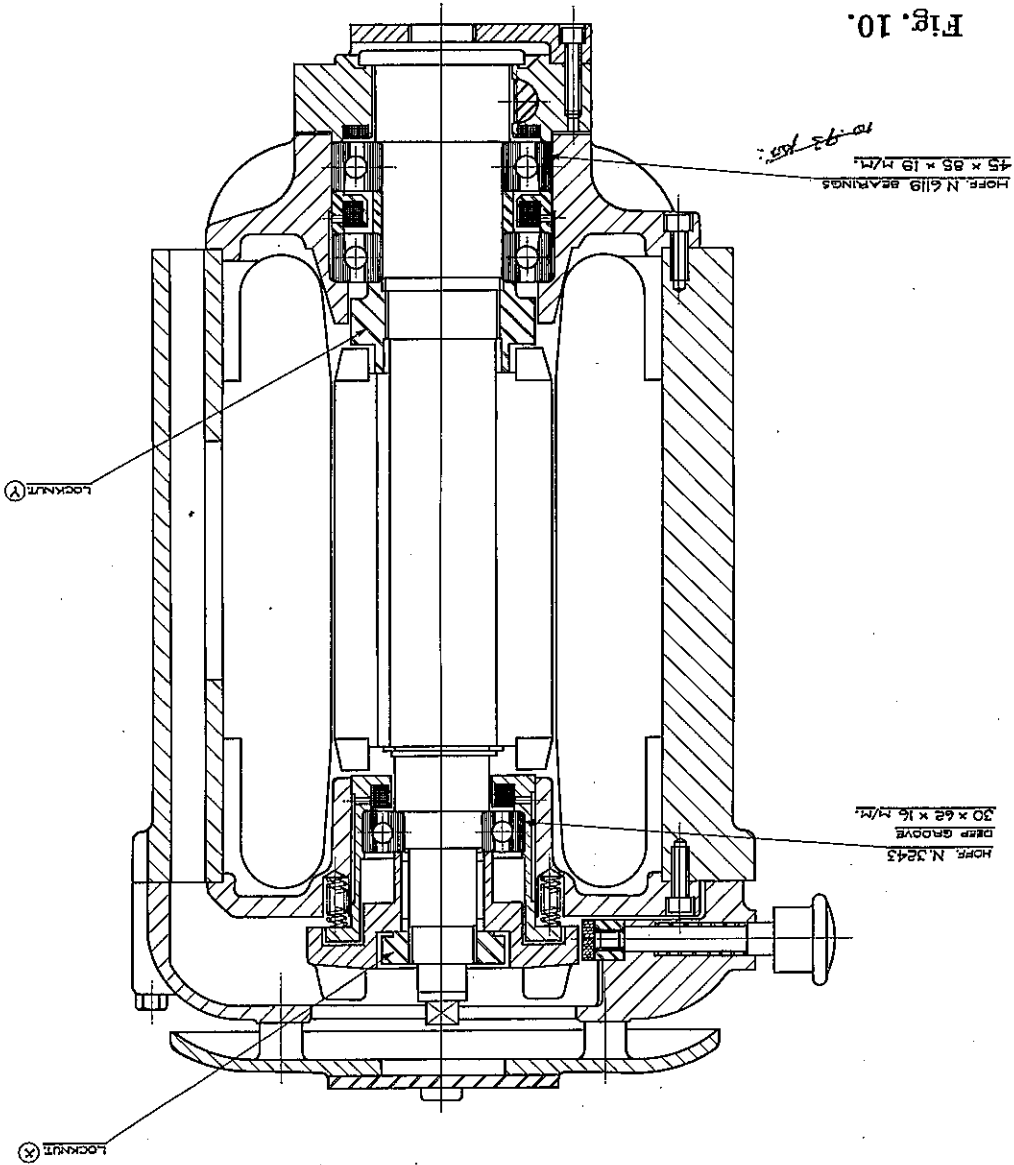

Fig. 10.
- If the customer prefers to overhaul the head himself, the dismantling should be obvious to a skilled engineer from the section at Fig. 10 but note the following points:-